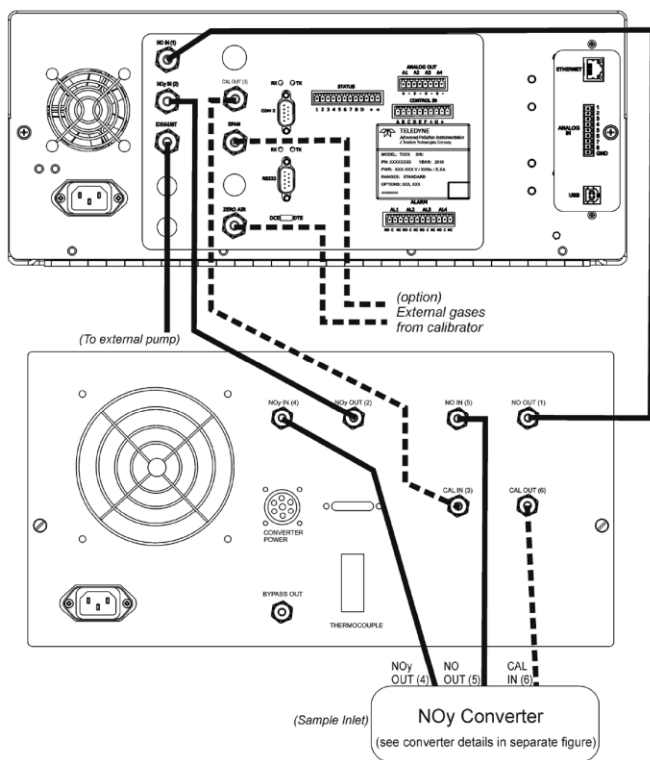

Figure 21
- a. For the 3 tubes: NO IN, NOy IN, and CAL GAS OUT. The 3-pin thermocouple connector and line moly heater AC voltage twist-lock connector. Refer to the pneumatic diagrams (Figures 21, 22, and 23).